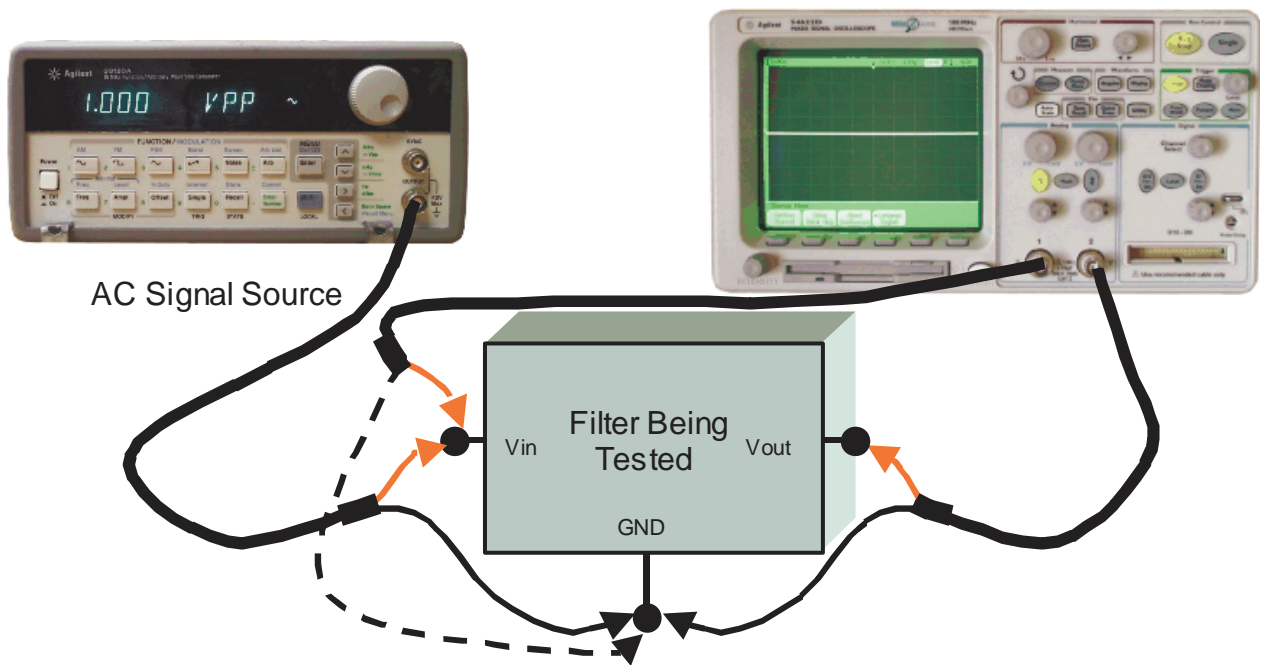
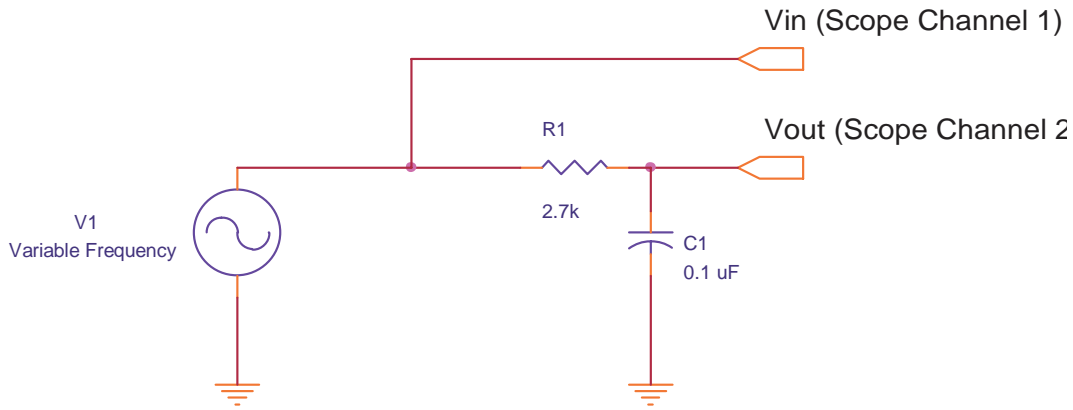

Figure 3: Setup for Measuring Filter Corner Frequency
Figure 4: Schematic Diagram of Test Setup
To measure the corner frequency of a filter, you need to connect a variable-frequency signal generator (AC source) to the filter's input, and an oscilloscope (or true-RMS AC voltmeter) to the filter's output, as shown below in Figure 3.
In the setup of Figure 3 (schematically shown in Figure 4), scope channel 1 monitors the input voltage being applied to the filter, and scope channel 2 displays the filter's output. Compare Figure 4 to Figure 3, and make sure you understand how (and why) things are connected the way they are!
1. Connect the circuit of Figure 4, and calculate the corner frequency of the filter.